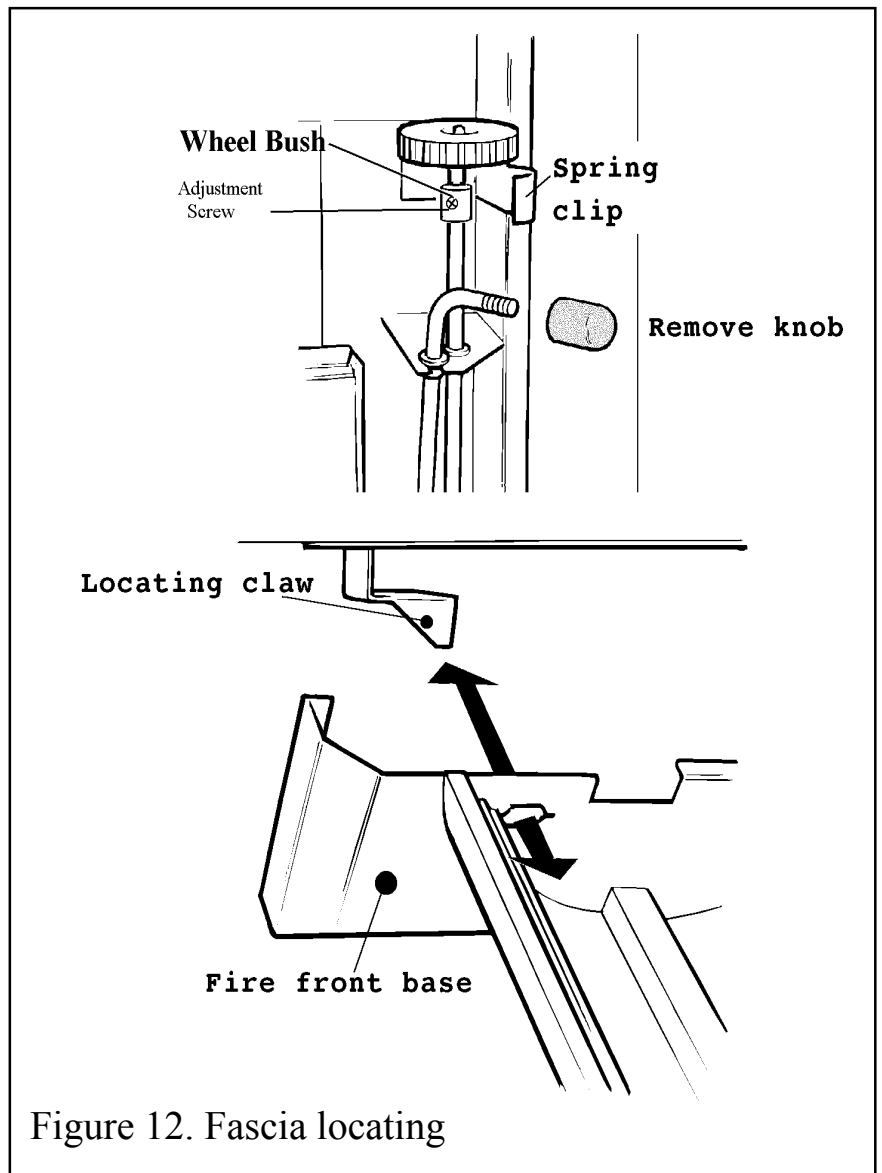

Figure 12. Fascia locating
1. Locate slots in the fascia over the claws at the sides of the main appliance (figure. 12).